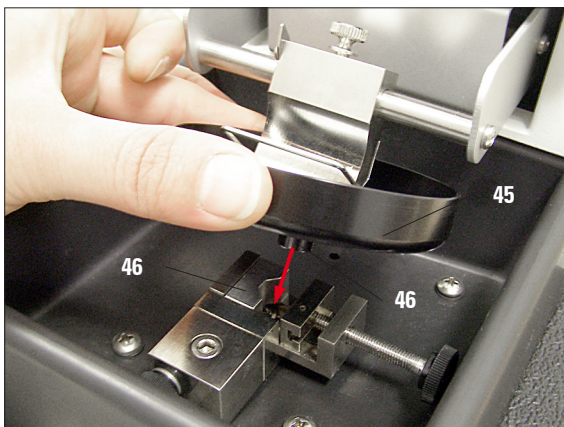

Fig. 21
- Position the lower post at the bottom of the round specimen tray into the V-block adapter (46) so that it can be clamped into place using the knurled screw (37) (Fig. 21).